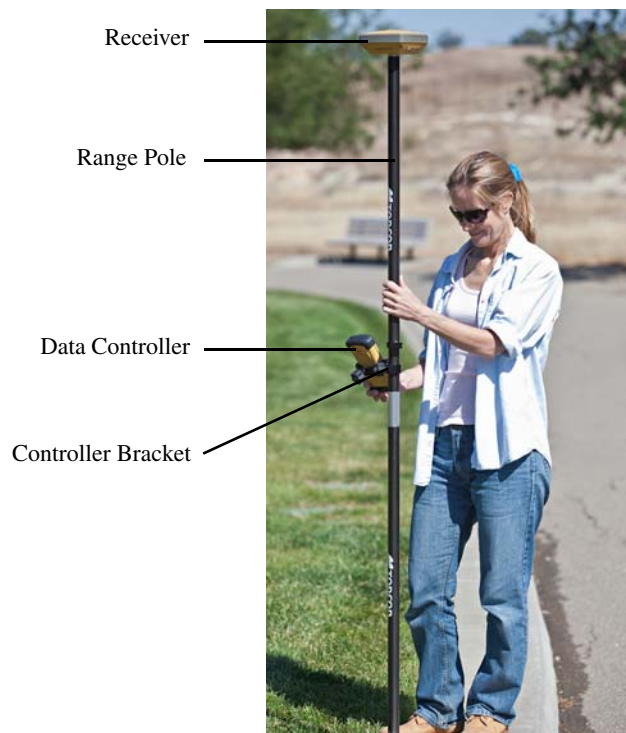

Figure 17: RTK Rover
1. Mount the receiver on the rover pole, as shown in Figure 17.